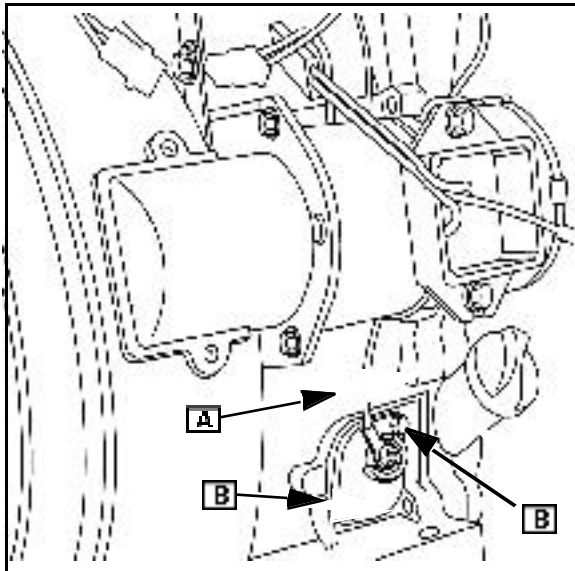

Fig. 28
1. Disconnect wire (A) from float assembly terminal and remove mounting screws (B) Fig. 28).